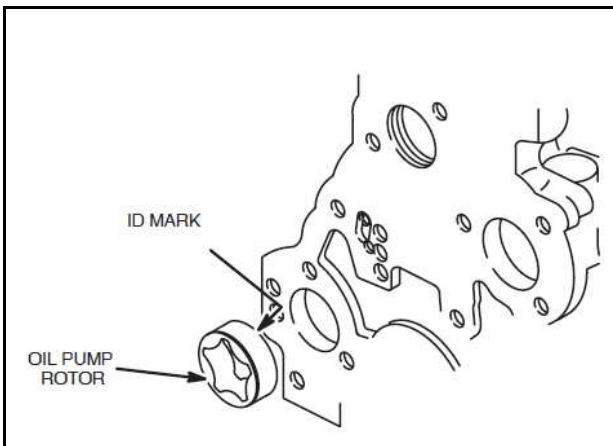

Fig. 9 - Installing Oil Pump Rotor
1. Lubricate oil pump rotor with engine oil and install in cylinder block, Fig. 9.